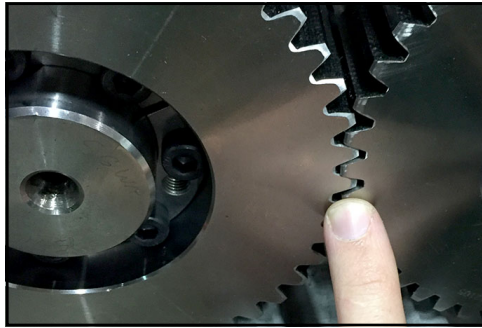

Figure 236 - Align gear
11. Align the loose gear with the drive shaft gear as shown in Figure 236.